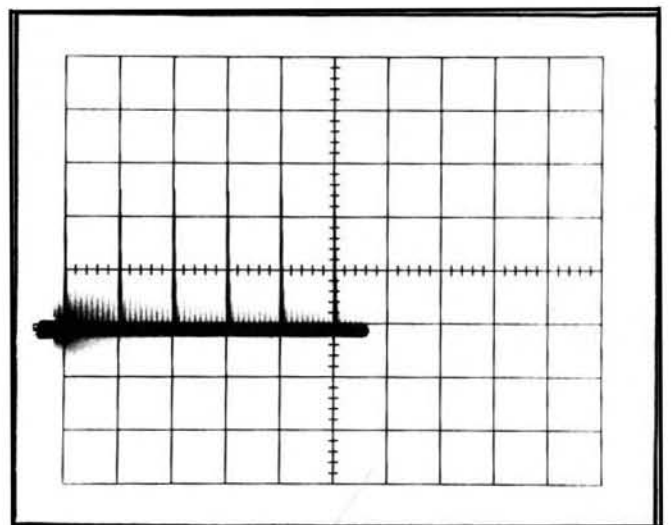

Fig. 5-4. Typical CRT display when checking sweep length.
b. Move the eleventh 1 ms marker to the center vertical line with the horizontal **POSITION** control (see Fig. 5-4).